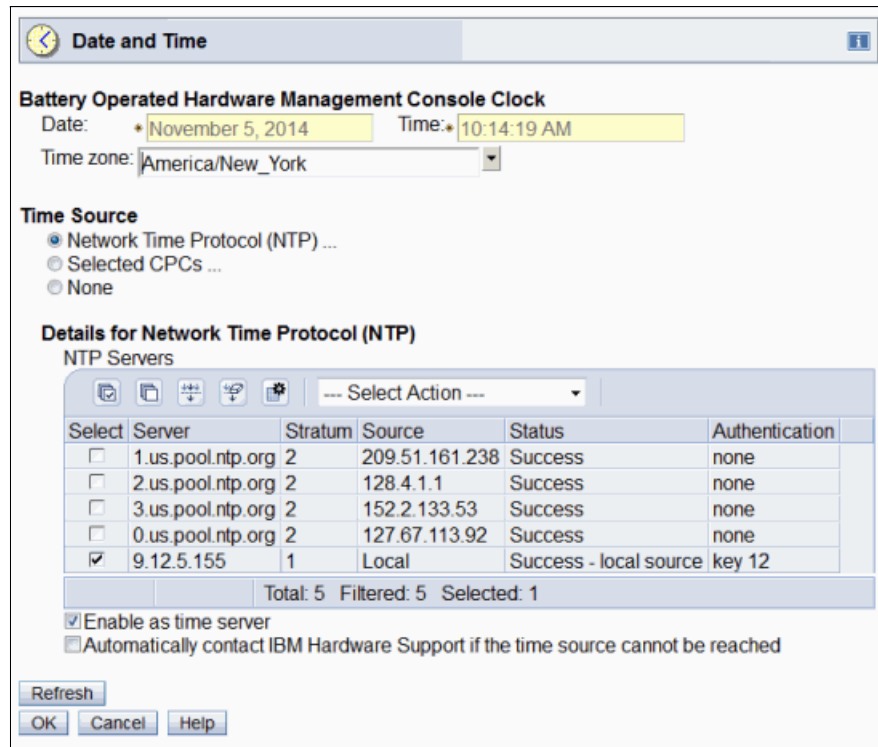

Figure 9-21 HMC: Customize Console Date and Time NTP server with Symmetric Key
- You are returned to the Date and Time window (Figure 9-21). Make sure the key that you selected is displayed in the Authentication column and the Status is Success.